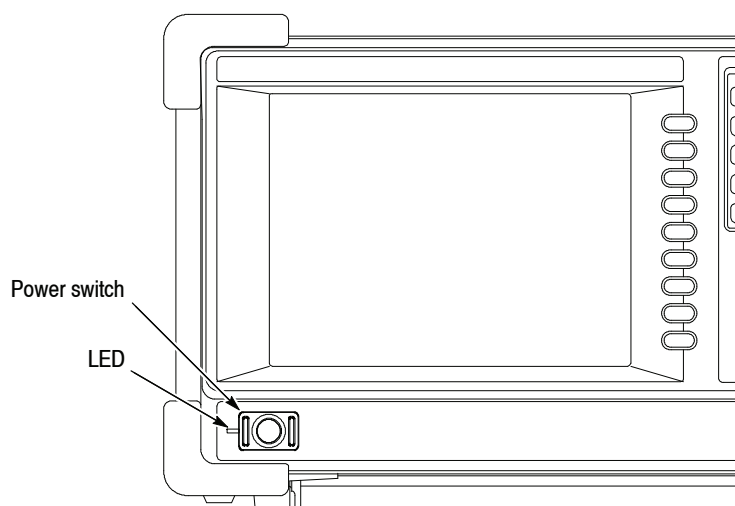

Figure 2-28: Power switch (On/Standby)
3. Turn on the power switch (On/Standby) on the front panel, as shown in Figure 2-28.